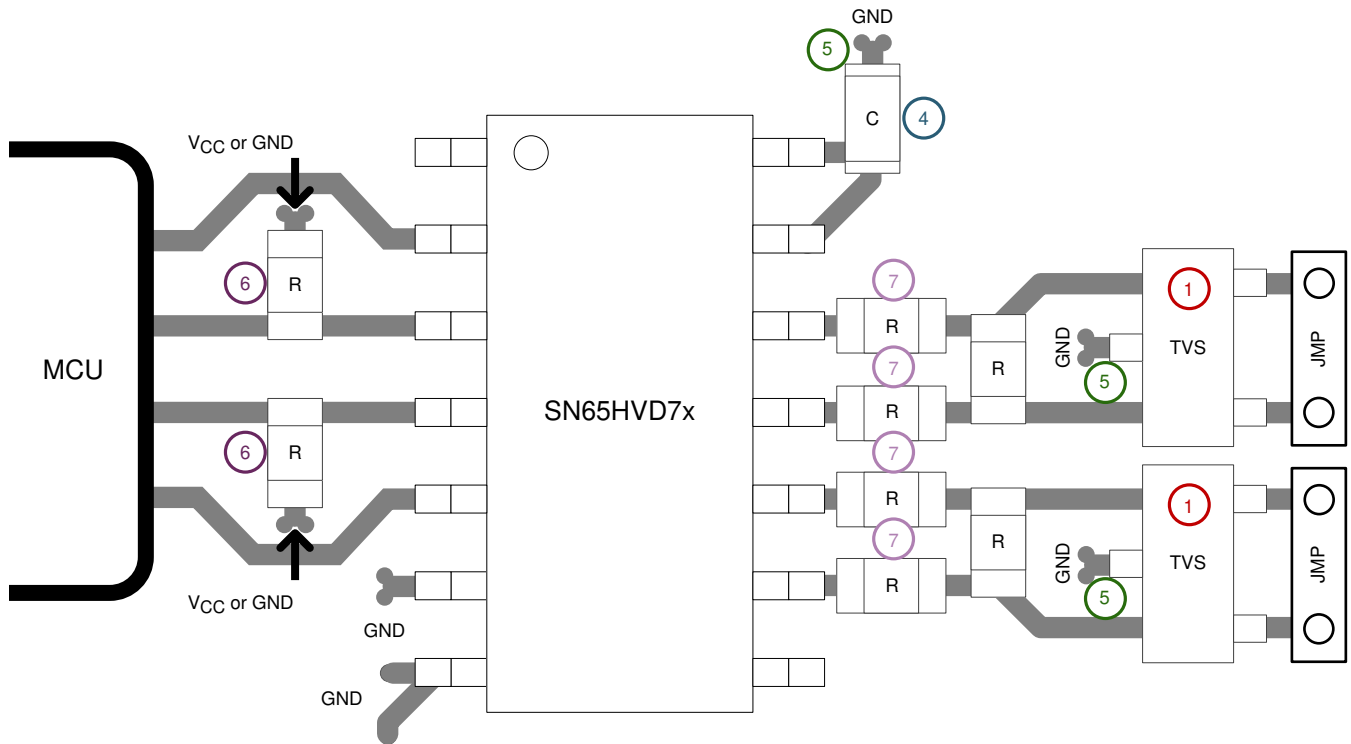

图 41. SN65HVD7x Layout Example
For successful PCB design, begin with the design of the protection circuit (see Figure 41).
4. Apply 100-nF to 220-nF bypass capacitors as close as possible to the V_{CC} -pins of transceiver, UART, controller ICs on the board (see Figure 41).
5. Use at least two vias for V_{CC} and ground connections of bypass capacitors and protection devices to minimize effective via-inductance (see Figure 41).
6. Use 1-k Ω to 10-k Ω pullup and pulldown resistors for enable lines to limit noise currents in these lines during transient events (see Figure 41).
7. Insert pulse-proof resistors into the A and B bus lines if the TVS clamping voltage is higher than the specified maximum voltage of the transceiver bus pins. These resistors limit the residual clamping current into the transceiver and prevent it from latching up (see Figure 41).